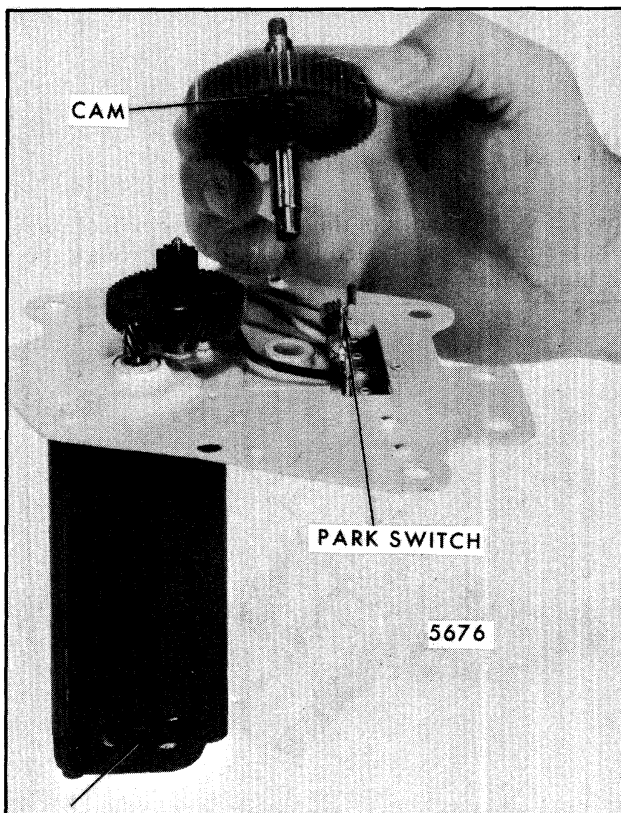

Fig. 2-16-Gear Installation
3. Install output gear and shaft assembly with cam at least 90 degrees away from park switch (Fig. 2-16).